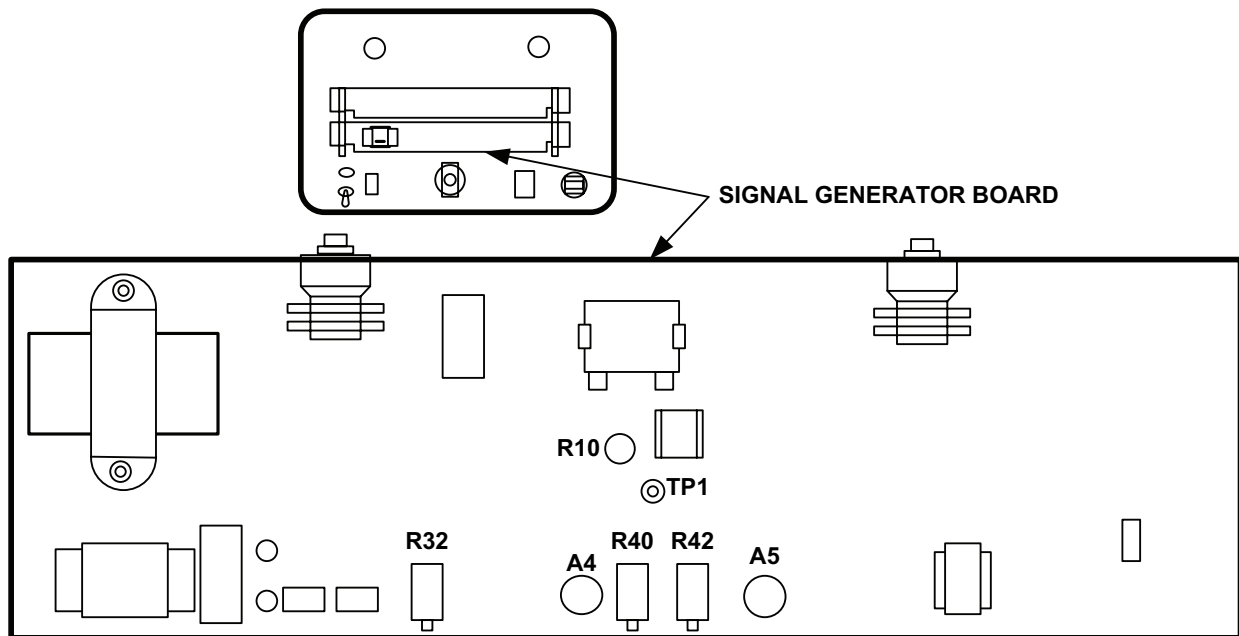

Figure 1. Test instrument - rear view.
- (1) Adjust R40 (fig. 1) for 16.400 mV dc indication on multimeter (R).
- (2) Adjust R42 (fig. 1) for 33.257 mV dc indication on multimeter (R).
- (3) Repeat **a** (3) and (4) and **b** (1) and (2) above, as necessary, for best in-tolerance compromise.
- (1) Connect frequency counter to TP1 (fig. 1).
- (2) Adjust R10 (fig. 1) for indication of 1 MHz on frequency counter.